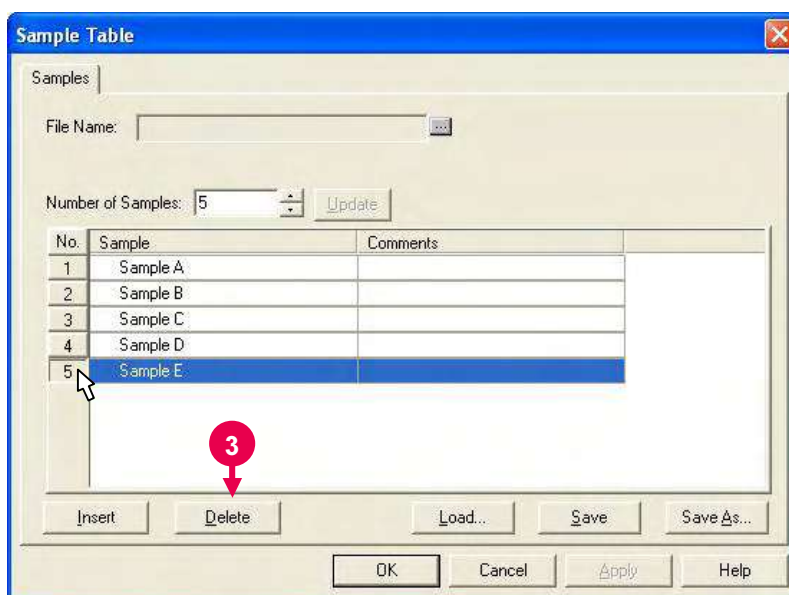

Fig. 4-21
- 3 To delete an unnecessary row, click its row No. to make it active as shown in Fig. 4-21. Then, click the **Delete** button.